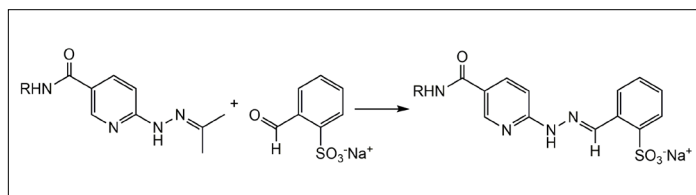

Figure 2: Colorimetric reaction used to quantify number of HyNic linkers on a biomolecule.
1. The molar substitution ratio (MSR) can be determined using a colorimetric reaction as outlined in Figure 2 below. Addition of 2-sulfobenzaldehyde to a HyNic-modified biomolecule yields a bis-aryl hydrazone that absorbs at 350 nm. Refer to the HyNic-Protein MSR Calculator as well as the protocol that is appropriate for your lab equipment: HyNic Protein MSR Instructions.